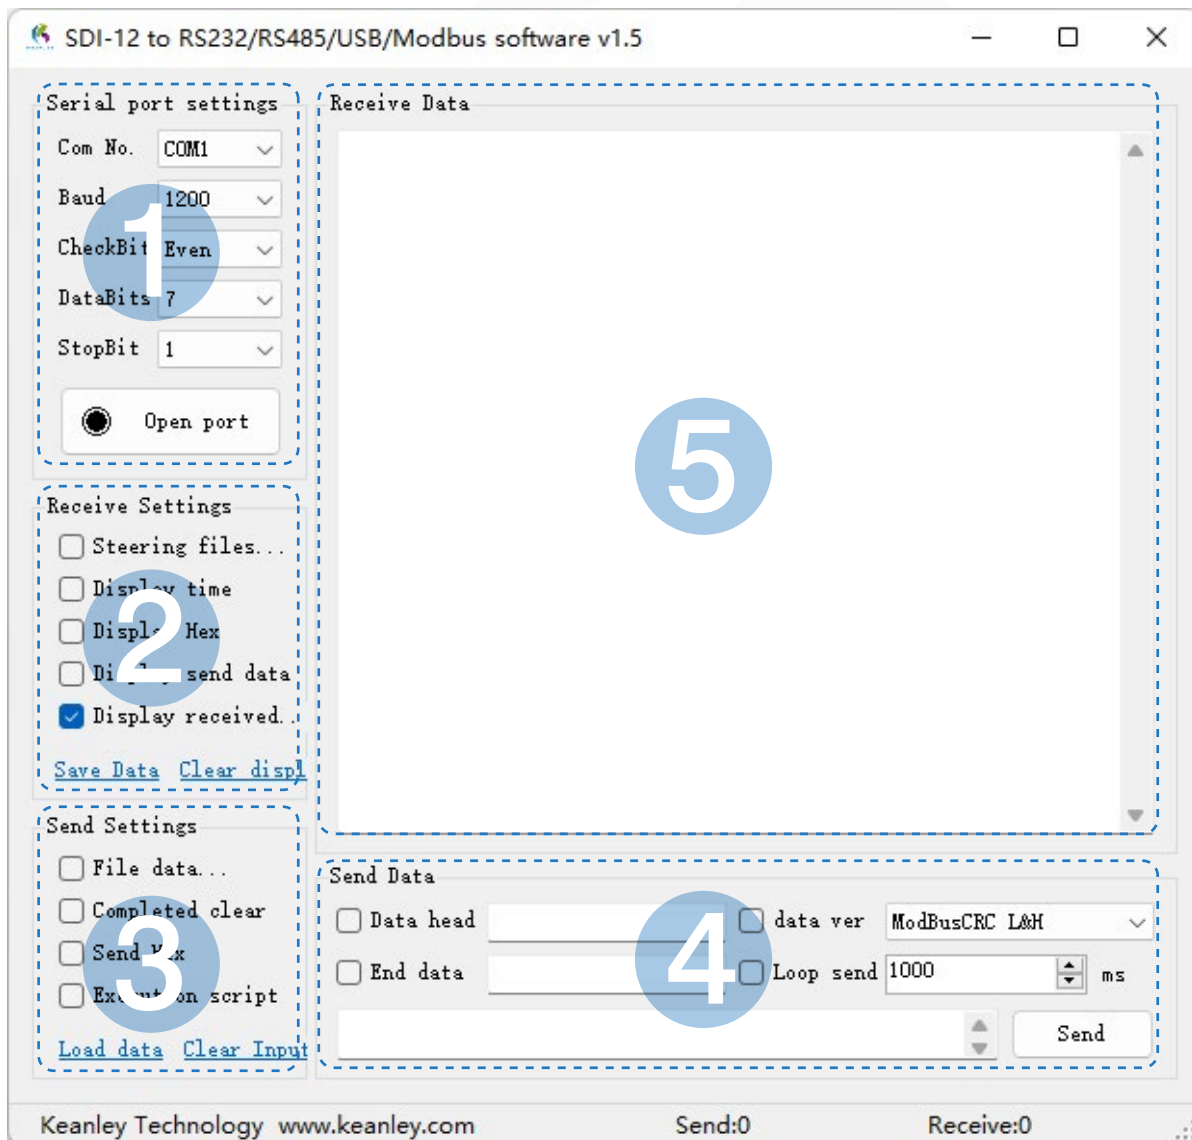

Figure 5. Software initial interface
■ Double click to open the downloaded file "SDI-12 Interface conversion.exe" as shown in Figure 5 below.
As shown in Figure 5, the interface conversion software is divided into five regions.